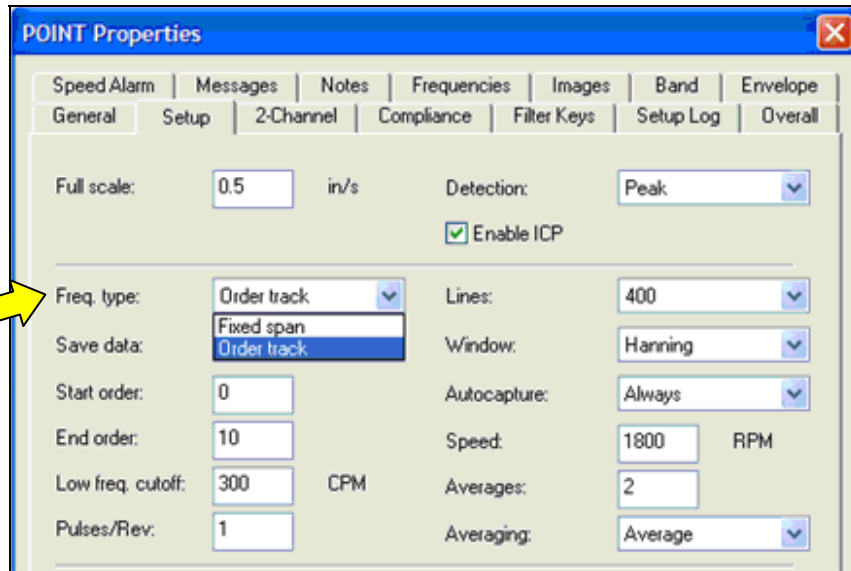

Figure 2. POINT Properties
2. Next, select the **Sensor Type** (most likely **Accelerometer**) and desired **Units** of measure. [Figure 2]
3. To create a measurement that will incorporate Phase, change the measurement setup from Fixed Span to **Order Track** in the **Setup** tab, as demonstrated in Figure 2.